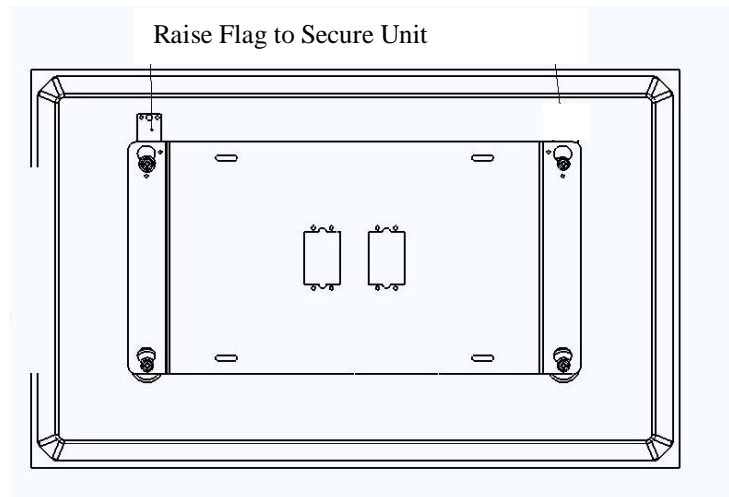

Figure 4
5. With the aid of another person, lift the plasma display up to the mount, align the mounting buttons on the plasma with the teardrop slots in the mount, and set the plasma into place (see Figure 4).